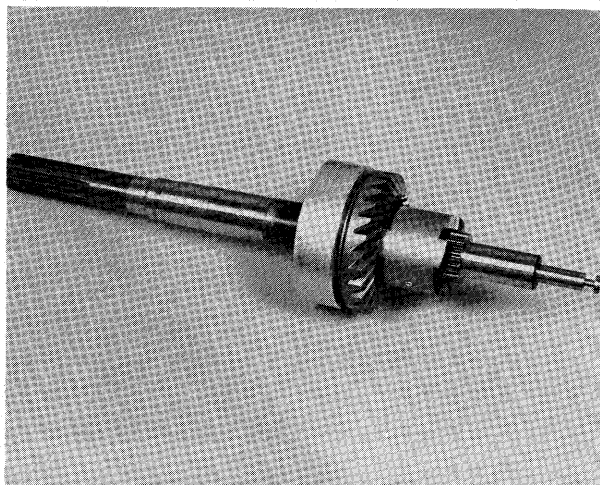

Figure 26—Installing Reverse Gear Assembly on Prop Shaft
- C. Install reverse gear assembly on prop shaft as shown in figure 26.